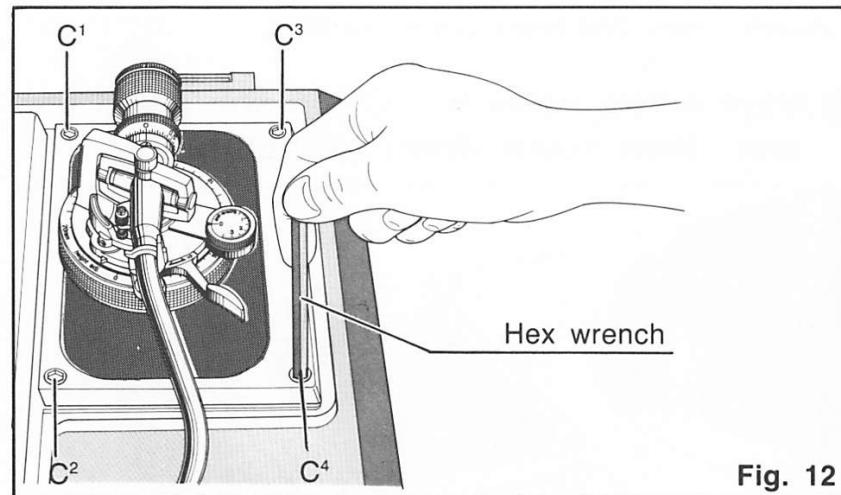

Fig. 12
- ⑤ Secure the arm panel with screws. (Fig. 12)**